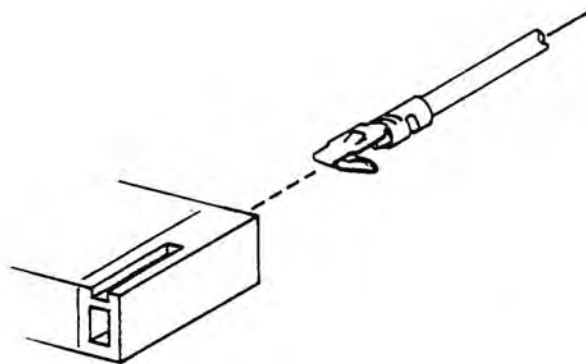

Figure 5-39c Terminal Pin Insertion
5. Bag 2 contains a female connector housing in which the terminal pins will be inserted. This housing is marked with tiny numerals over slots one (1) and ten (10) (as indicated in Figure 5-39c). Insert the wire from hole one (1) (as marked on the board) into slot one (1) of the female connector. Proceed through the wires in numerical order (i.e. wire 2 to slot 2). Slots nine (9) and ten (10) are not used. Make sure each connector "clicks" into place.